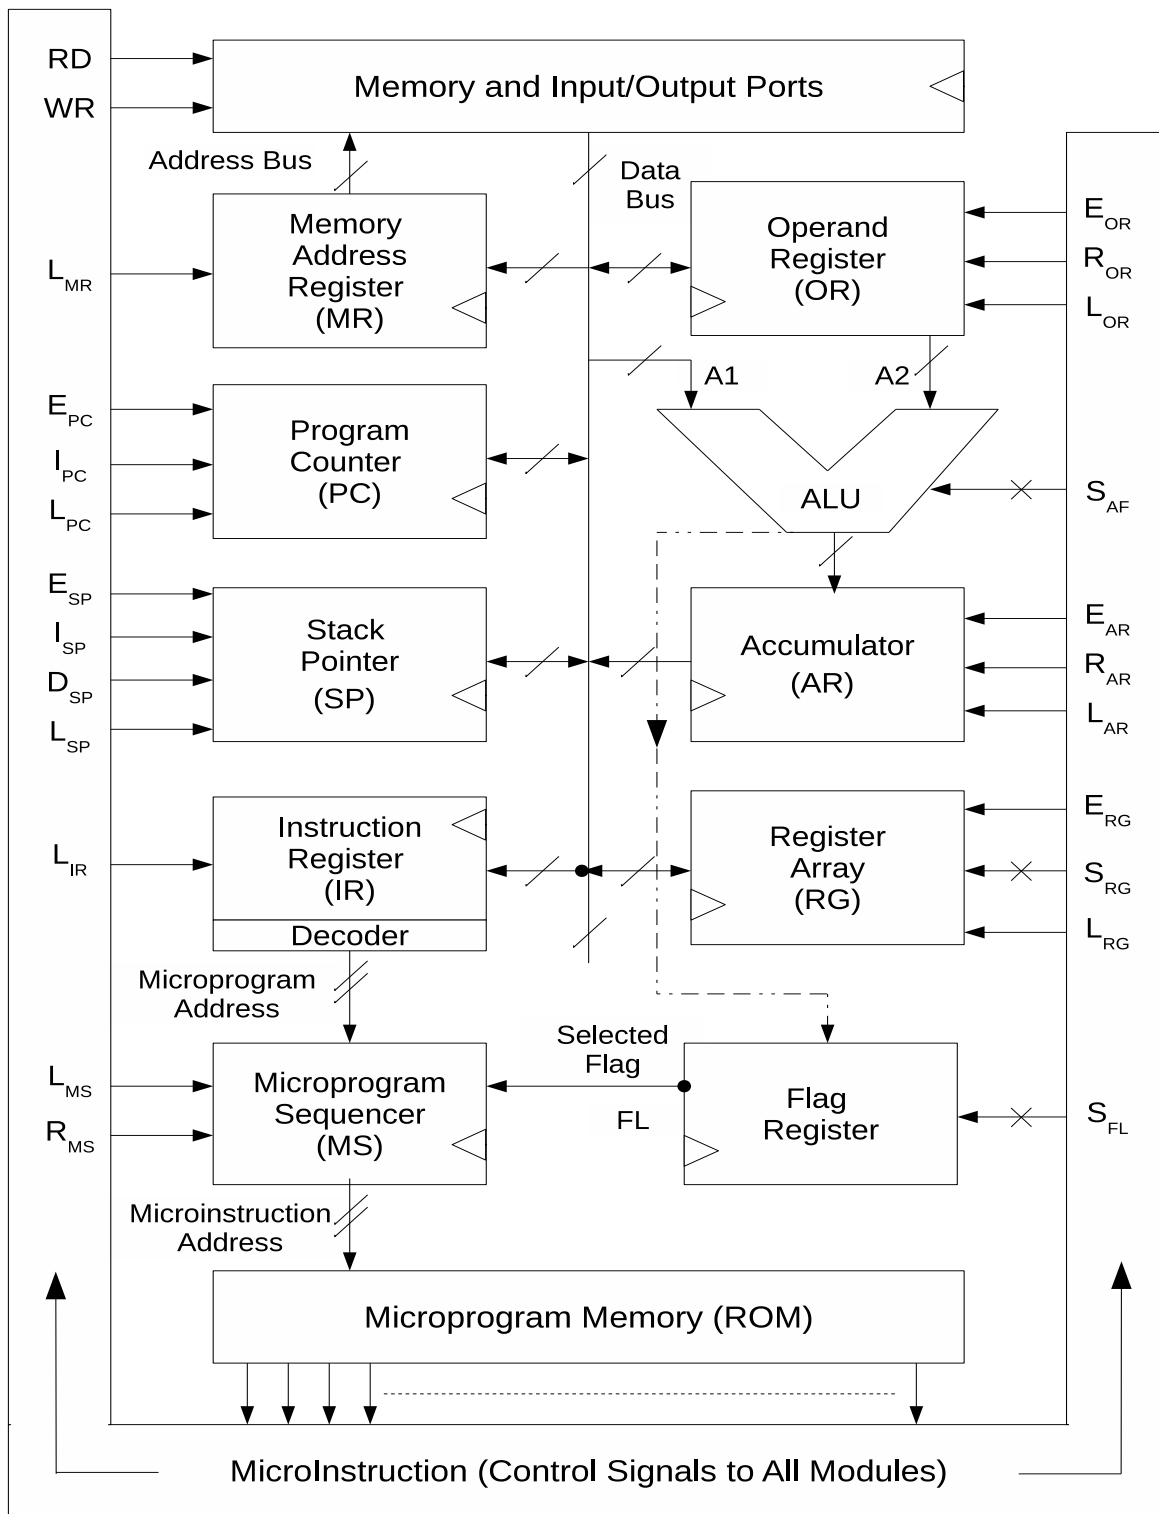

Figure 6.1: The complete architecture of the simple, singlebus processor
It is now time to reveal the overall architecture of our simple processor. Figure 6.1 gives the internal architecture of the entire processor. The instruction register is shown there. There are a number of new components like the flag register, the microprogram sequencer, etc. The box on the periphery is the collection all control signals. We can treat the collection as a *microinstruction word*. Such words are stored in the *microprogram memory*, which is implemented using a ROM. The address to this ROM is supplied by the *microprogram sequencer* in each clock cycle. The microprogram sequencer generates the address based on the instruction in the instruction register as well as the status of the flags. The purpose of these components will be explained in the rest of this chapter.
The stack is an important component of the program execution aspect of the processor. The stack is stored in the memory so that its capacity can be reasonably large. However, a special register called the *stack pointer (SP)* resides inside the processor, which holds the address of the next empty location in the stack. Figure 6.1 shows the stack pointer among the registers of the processor. Traditionally, SP values grow downwards. That is, SP is decremented by 1 when a value is pushed onto it and it is incremented by 1 when something is popped out of it. Thus, SP is initialized to the highest address that belongs to the stack when it is empty. The stack managed by SP is usually called the *system stack* and plays a critical role in the program flow
Figure 6.1 shows a thin line connecting the ALU to the flag register to indicate their link. The flag values are loaded from the ALU to the register only for valid operations. For instance, all arithmetic and logic instructions affect the value of **Z** and **P** flags. However, only arithmetic instructions affect the values of **S** and **C**. Instructions that do not use the ALU – such as the data movement instructions, branching instructions, and the like – do not change the flag values. As we will see soon, the conditional branching instructions can use one of the flag values to decide if the branch should be taken or not. The select lines **SFL** choose the appropriate flag.
In this chapter, we will complete the story of our simple processor, whose architecture is given in Figure 6.1 and whose complete instruction set is described in Table 7.1. It is clear that the main task is to generate the combination of control signals for each clock cycle for each instruction as given in the table. We can think of the control signals being generated using a combinational circuit, whose input is the opcode of the current instruction and the clock cycle number. The opcode is loaded into the IR register by the fetch process. The clock is available to the microprogram sequencer, which can count them starting with a 1 for the fetch.